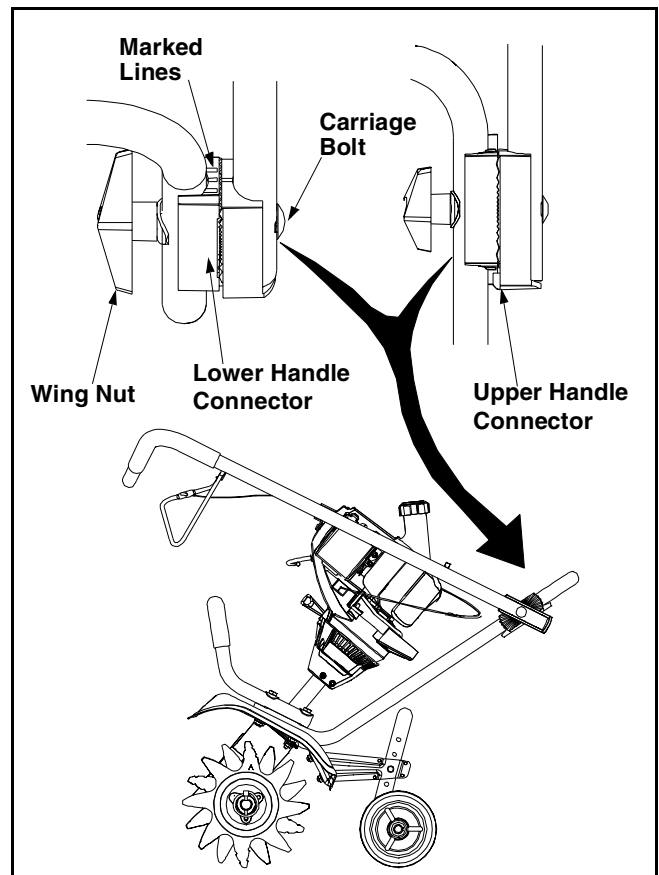

Figure 1
- Loosen each wing nut enough to separate the plastic connectors between the upper and lower handle. Gently lift up and pull back on the upper handle to raise the handle toward the operating position. See Figure 1.